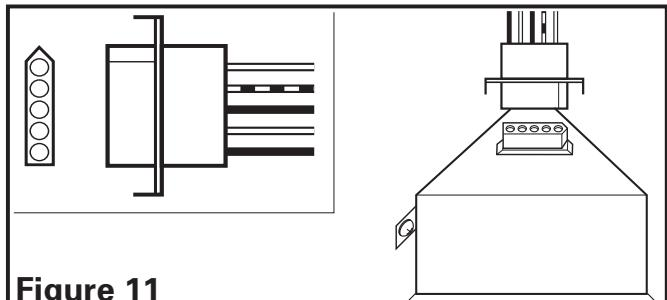

Figure 11
2. Plug the fan's quick connect motor cord into the receptacle. This cord will only fit one way into the receptacle (**Figure 11**).